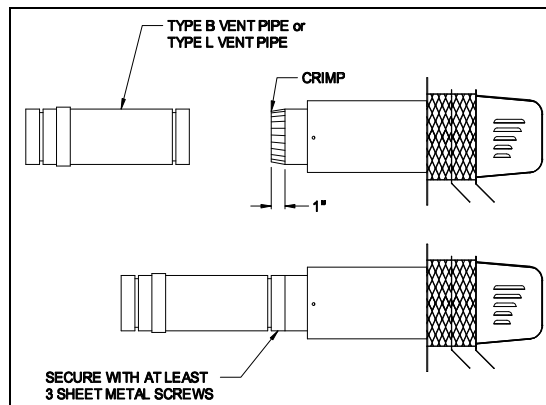

Figure 7
1. Using a hand crimper or a like device, crimp the inner pipe of the SWG power venter approximately 1" long. (See Figure 7)
3. Secure the vent pipe to the SWG power venter inner pipe with at least (3) three #8 sheet metal screws. Pre-drilling the holes through both pipes will allow easier fastening.